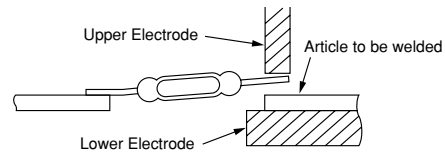

Fig. 5 Precautions to be taken when welding terminals
(1) When the terminals of the reed switch are welded, one terminal may become lifted off in relation to the other terminal, as shown in Fig. 5, thereby exerting force on the sealed portions of the glass tube. To prevent this problem, please weld the terminals under appropriate conditions (e.g., welding voltage and current, and applied pressure).